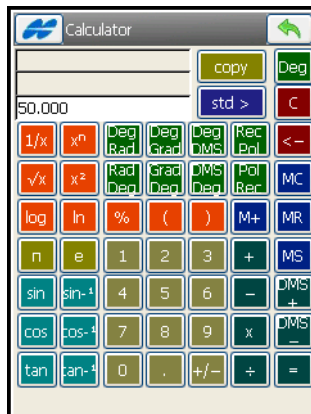

Figure 10-7. Scientific Calculator
- **sci** – tap to display/use the scientific calculator (Figure 10-7).